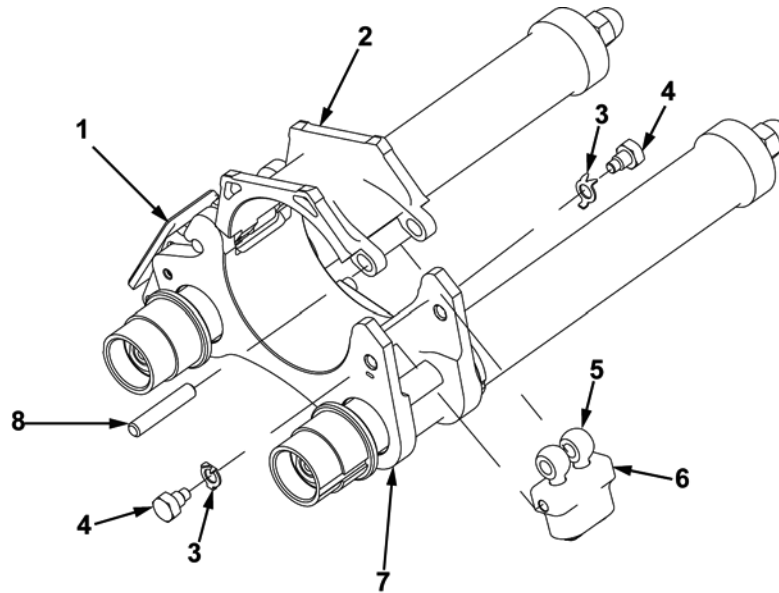

Figure 14. Installation of Spring Washer Assembly.
29. Align eyebolts (Figure 14, Item 5) of spring housing assembly (Figure 14, Item 6) with holes in upper clamp (Figure 14, Item 2). Install hinged pin (Figure 14, Item 8) in upper clamp.
30. Align holes in spring housing assembly (Figure 14, Item 6) with holes in lower clamp (Figure 14, Item 7). Install two new key washers (Figure 14, Item 3) and two machine bolts (Figure 14, Item 4). Torque bolts to 22.5 - 27.5 ft•lb (34 N•m). Bend tabs of two key washers to secure.
31. Install clamping catch (Figure 14, Item 1) into lower clamp (Figure 14, Item 7) and close.